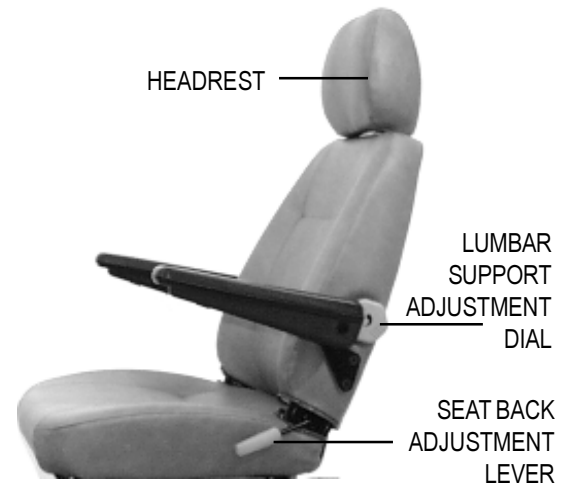

FIGURE 13. SEATBACK AND HEADREST ADJUSTMENTS
1. Pulling up on the headrest will raise its position. See figure 13.
To adjust your Wrangler's reclining seat, perform these steps. See figure 13.
The lumbar support is inside the lower part of the seatback. Turn the lumbar support adjustment dial counterclockwise to move the support into a comfortable position. See figure 13.
NOTE: If your Wrangler is not equipped with a reclining highback seat, as shown in figure 13, you will be able to adjust the height and width of the armrest by following the directions below.